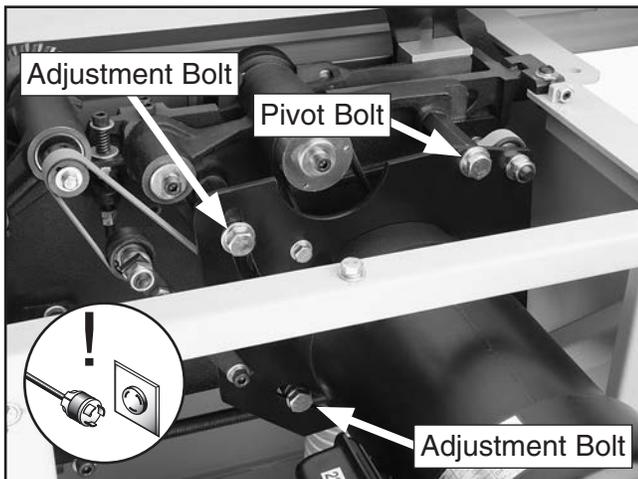

Figure 106. Main blade belt tension controls.
4. Loosen the pivot bolt and two adjustment bolts (**Figure 106**).